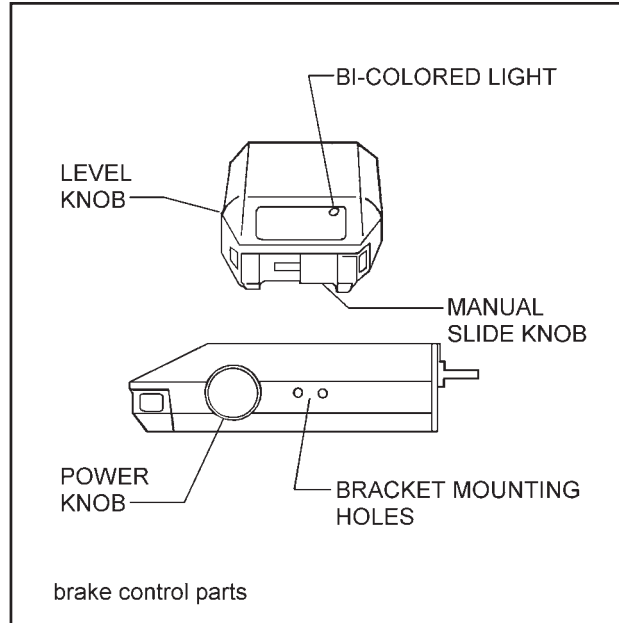

Figure 3-15 Brake Control Components
- a. Connect trailer to tow vehicle. The bi-colored light should glow GREEN (See Figure 3-15).